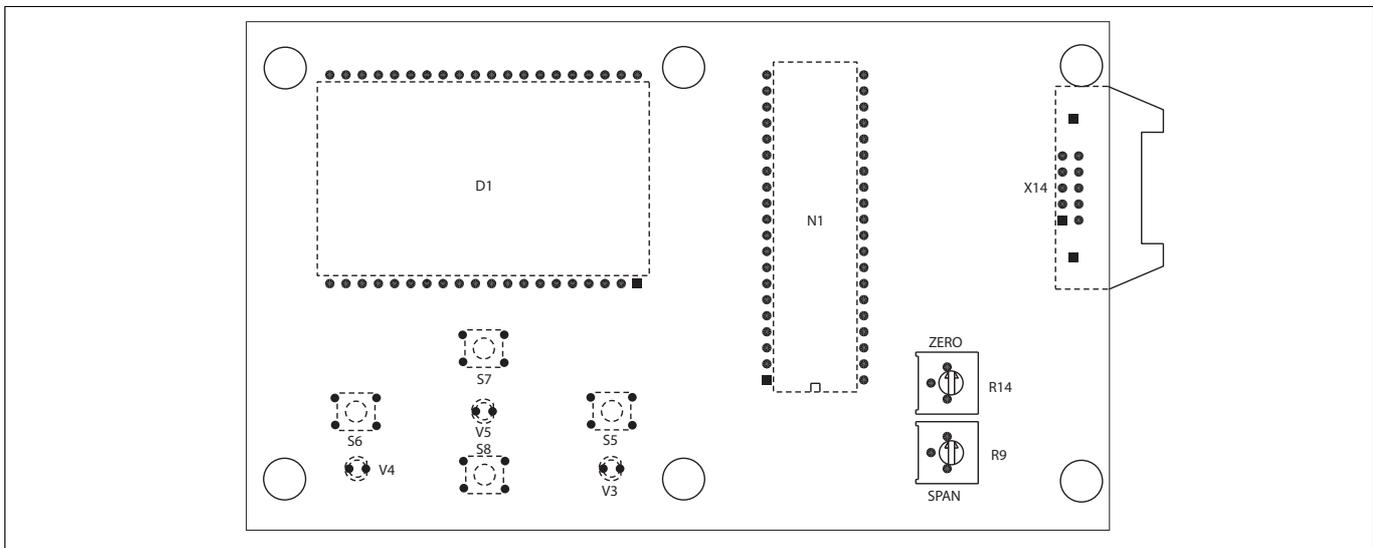
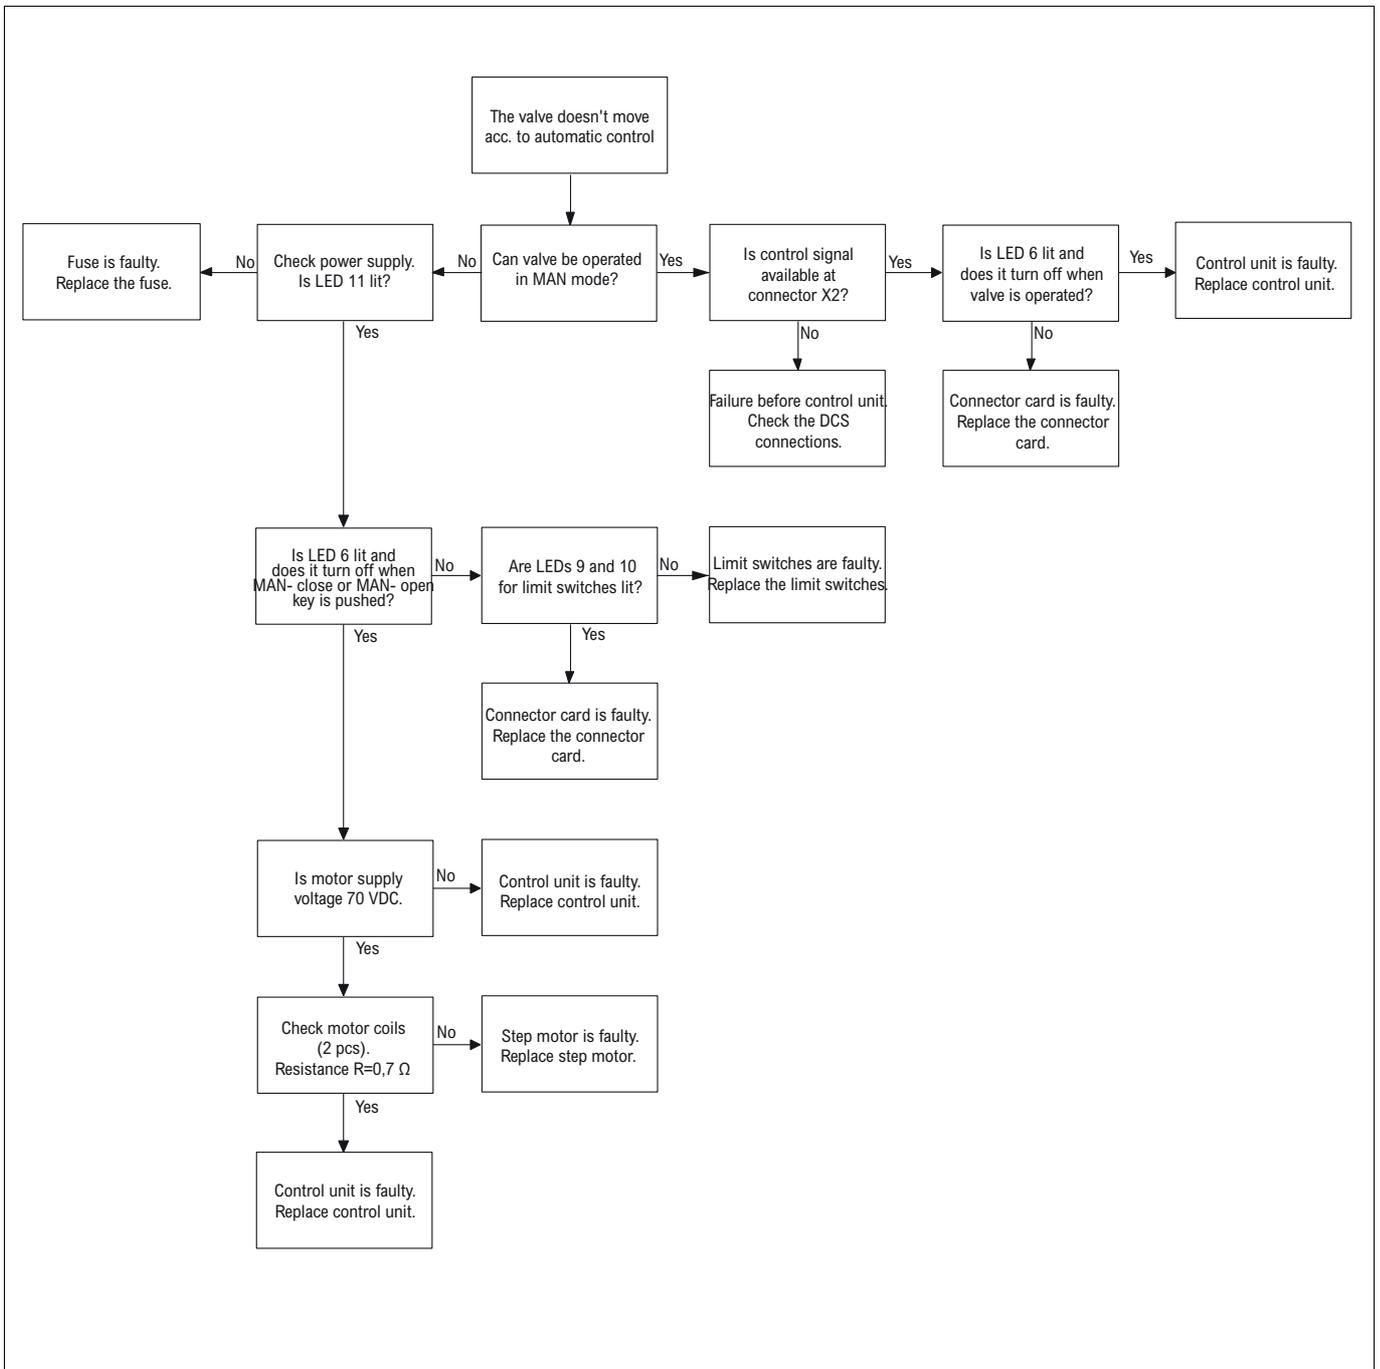

Fig. 16 Calibration potentiometers in display card
Fig. 17 Troubleshooting chart 1
- While installing the valve check the gap between segment and seat. The gap must be 0.20 mm in every part of segment. If the segment has moved, the gap may be smaller. In this case the segment must be centred before tightening the locking screws (27). Centring is made with a copper hammer or with another soft tool so as not to cause damage to the segment while hitting it. While the gap is of equal size in every part of segment, locking screws can be tightened.
- Install finger covers (170) by pressing them back in place. Check also the condition and stability of covers. If the covers do not stay properly, adjust them by bending the bracket. **Never use the actuator without properly mounted finger covers!**
In the following charts, Fig. 16 and Fig. 17, some failure situations have been presented. The charts refer to label (228) inside the controller and the LEDs of the controller, Fig. 5. IPCOMM communication program and instructions file can be also used in trouble shooting. The instructions file clarifies the functioning of application software. These charts are only applicable to correctly mounted and connected device. Installation and connection instructions are presented in Section 2.